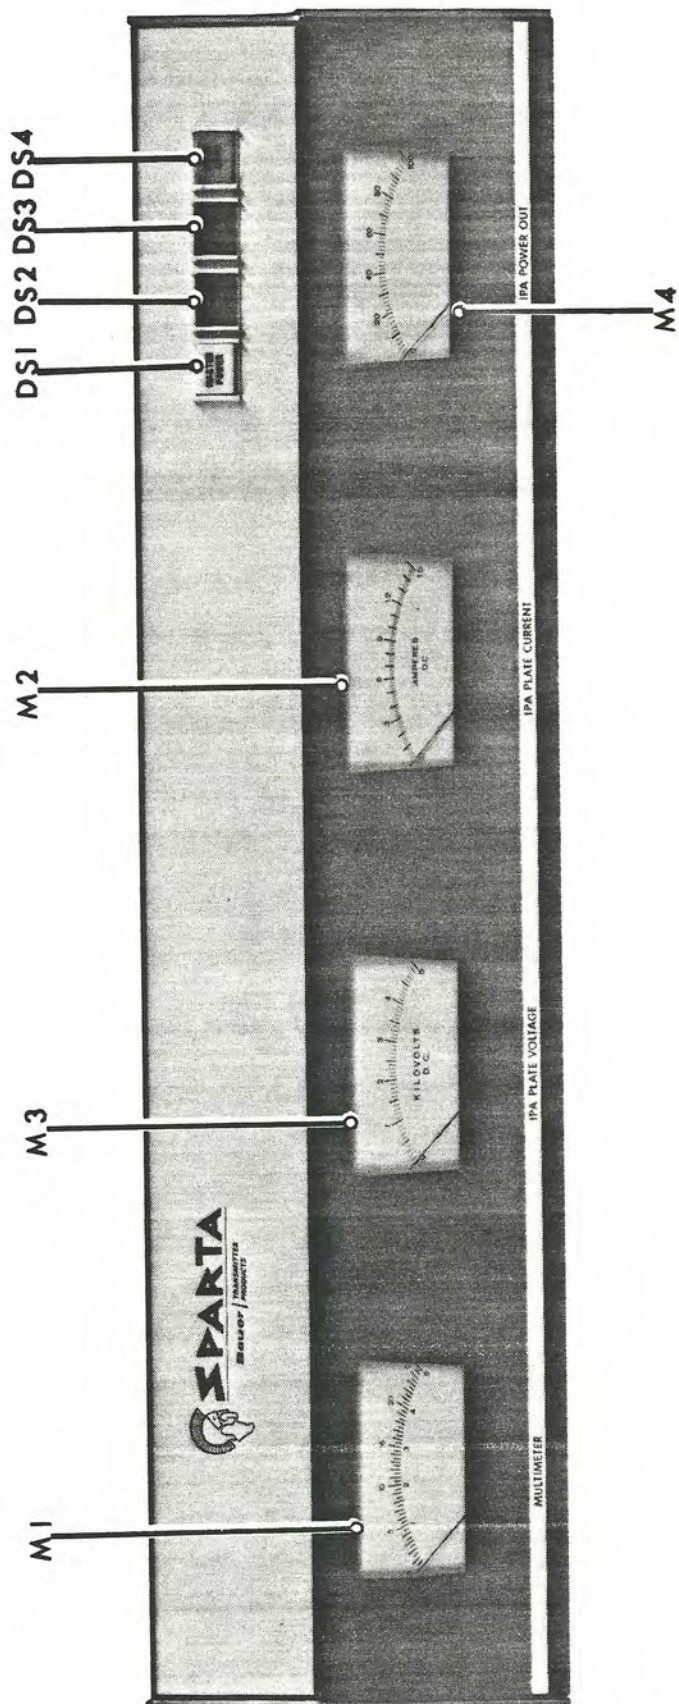

FIGURE 3-1. IPA METER PANEL
- d. Set MASTER POWER switch S1 (figure 3-4) to ON and observe that MASTER POWER lamp DS1 lights. (See figure 3-1.) When blowers B1 and B2 build up
- e. Set MULTIMETER function switch S14 to IPA FILAMENT VOLTAGE and adjust IPA FILAMENT VOLTAGE control R34 for an indication of 5 vac on MULTIMETER M1. (See figures 3-1 and 3-3.) If the 5 vac indication cannot be obtained, change the primary tap on transformer T2 as required. (See paragraph 2-4.2.)
- h. After the time delay has elapsed, note that INTERLOCKS lamp DS2 (IPA) and INTERLOCKS lamp DS7 (PA) light. (See figures 3-1 and 3-6).
- j. Set PA PLATE switch S12 to ON and set MASTER PLATE switch S4 momentarily to ON and then release. (See figures 3-4 and 3-8.) Note that PLATE lamps DS3 and DS8 light. (See figures 3-1 and 3-6).